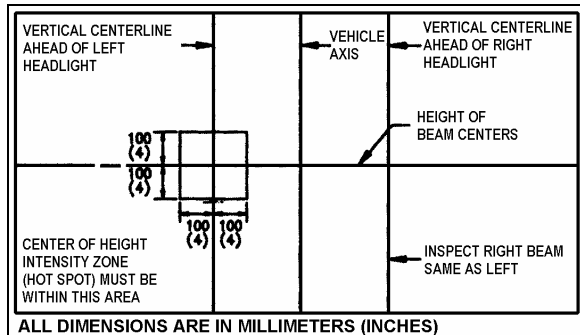

FIGURE 49: AIM INSPECTION LIMITS FOR UPPER-BEAM HEADLIGHTS
- The inspection limits for high-beam headlights shall be with the center of the high-intensity zone from 10 cm (4 inch) up to 10 cm (4 inch) down; and, from 10 cm (4 inch) left to 10 cm (4 inch) right on a screen at 7.6 m (25 ft.) (Figure 49).